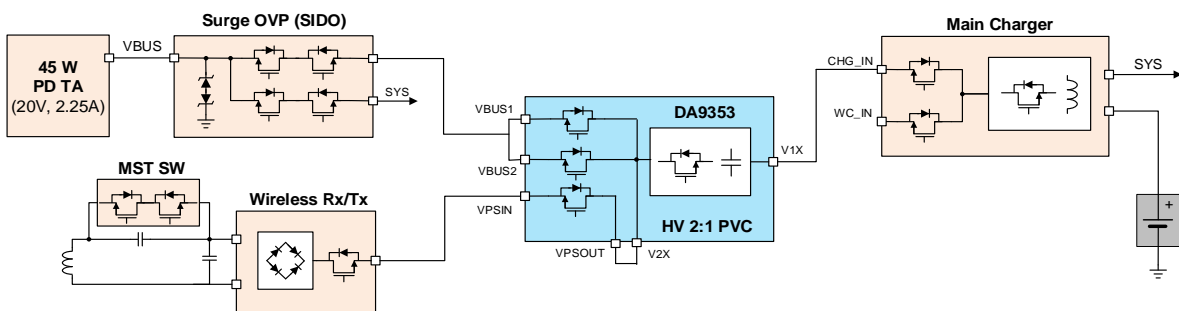

Figure 8: DA9353 Charging System Diagram 2
- USB PD PPS TA (reduced R_{DS_ON} with parallel power switches) and HV TX; Charging System Diagram 2, see Figure 8.